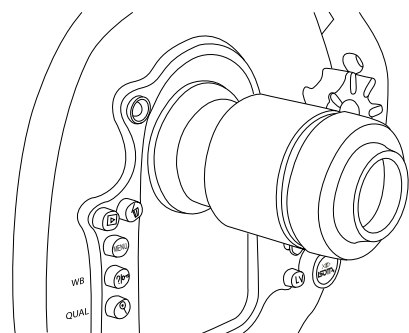

Figure 13
- Gently push the viewfinder from the outside of the back inwards until it stops; (fig. 13)